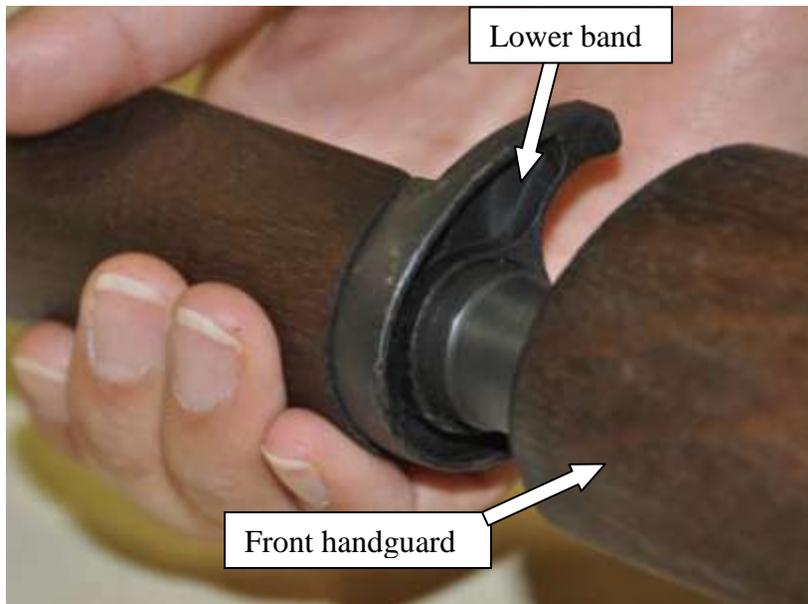

Figure 29 -Front hand guard insertion
- 1) Replace the front hand guard by sliding it over the muzzle and ensuring that it is seated properly in the lower band (fig 29).